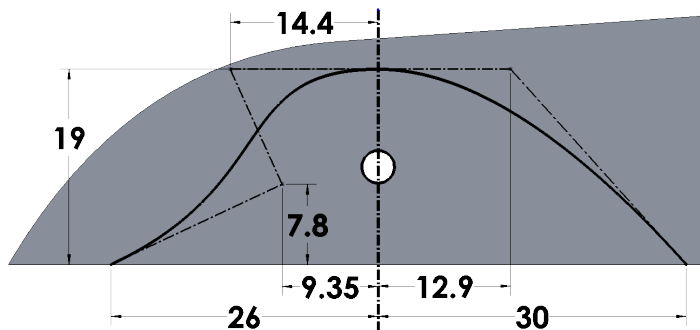

Fig. 74
Step 13. Click **Smart Dimension**  (S) on the Sketch toolbar.
Step 14. Add dimensions, **Fig. 74**.
Step 15. Click **Line**  (L) on the Sketch toolbar.